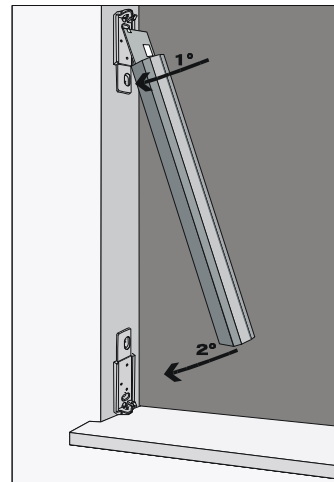

fig. 6d
4. Once the two (upper and lower) bases are fixed, hook the section in the upper part first, ensuring that the circuit is blocked in the special retainers, then in the lower part (fig. 6d).